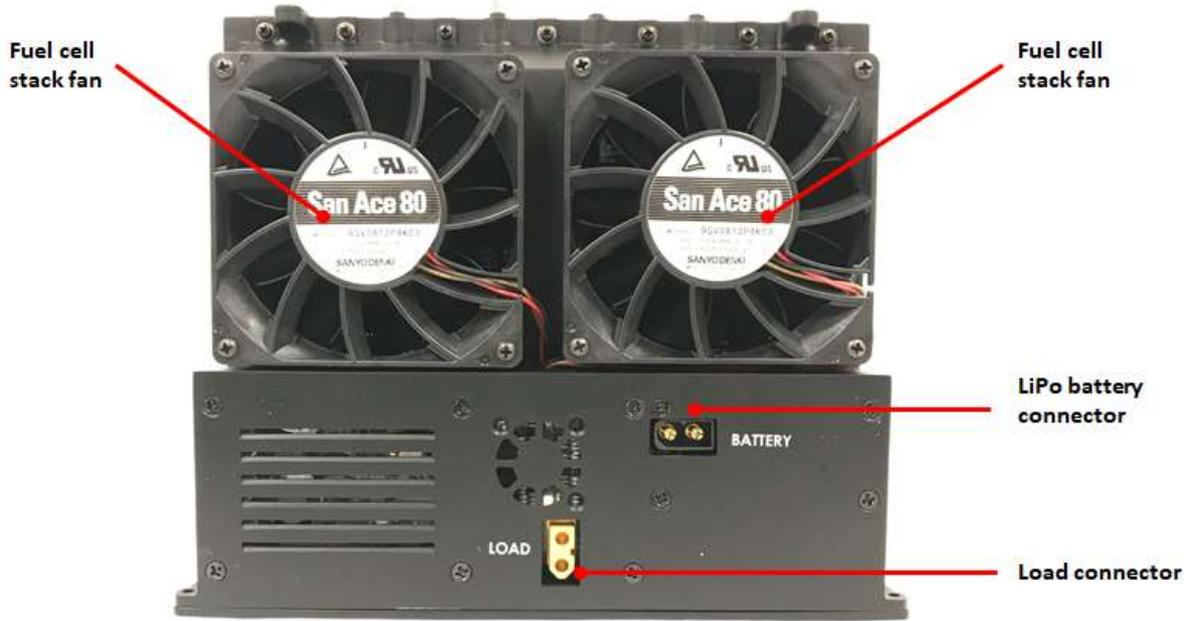
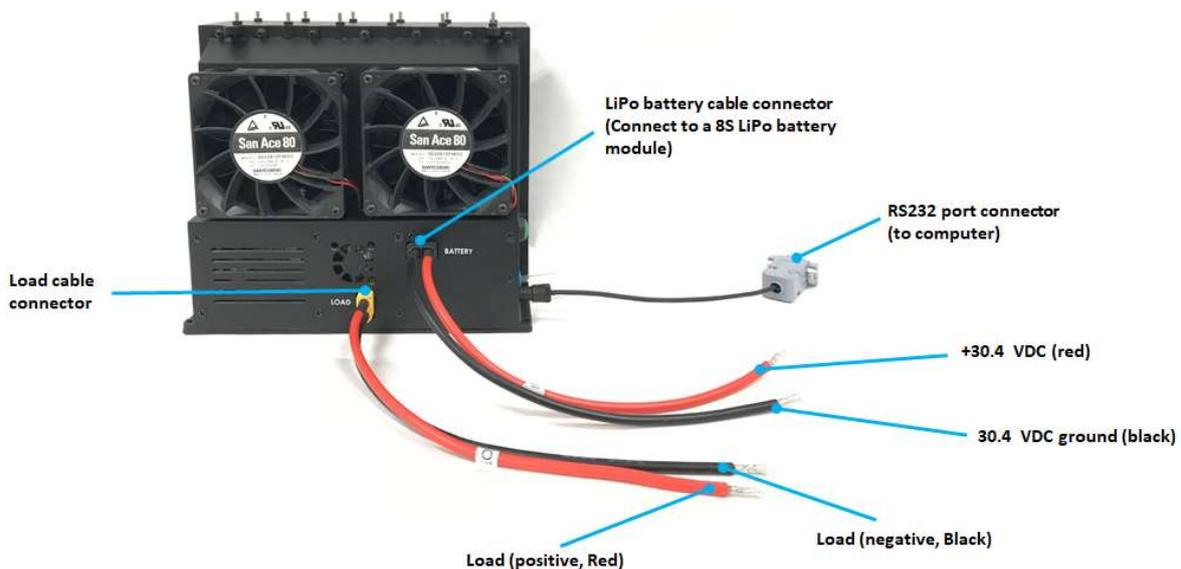

Figure 4. Back view of the Aerostak A500-45 system showing the fuel cell stack fans, load connector, and LiPo battery connector.
Figure 7. Load and wire connections for the Aerostak A500-45 fuel cell system.
- 2) **Fuel cell stack fan (Figure 3, Figure 4 or Figure 5):**
- 6) **RS232 serial communication port (Figure 7):**
- 7) **Load connector (Figure 4 and Figure 7):**
- 8) **Battery connector (Figure 4 and Figure 7)**
Ensure the electrical connections are made correctly to the system as shown in Figure 7. The LiPo battery is not included due to international shipping regulations. A LiPo battery charger is also required but not included with the system.
3. Connect the power output to the external load with the provided load cable. Insert the load cable into the system connector labeled LOAD, located on the back panel. Refer to Figure 7 below for reference. Do not switch on the external load until the fuel cell is fully operational.